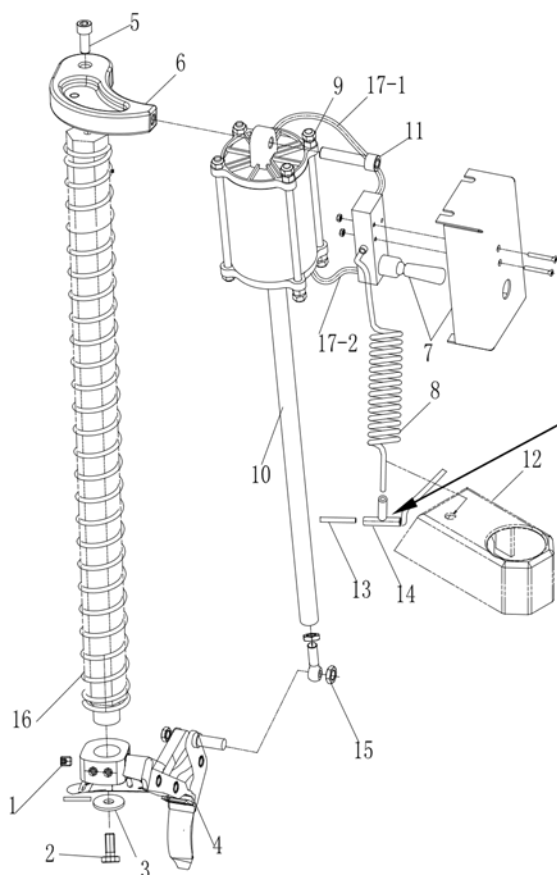

Fig 19
14.6. Assembly (Fig 19)
Fig 19 presents all the main parts of the automatic mount/demount head.